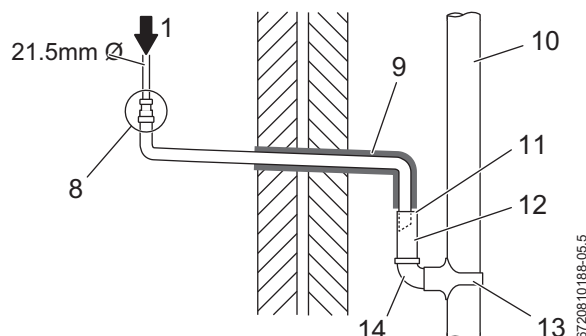

Fig. 13 Disposal into a rainwater down pipe
Continued - Key to illustrations, figures 13, 14, 15, 16 & 17
- Refer to figure 13 when a rain water down pipe is used to dispose of condensate.